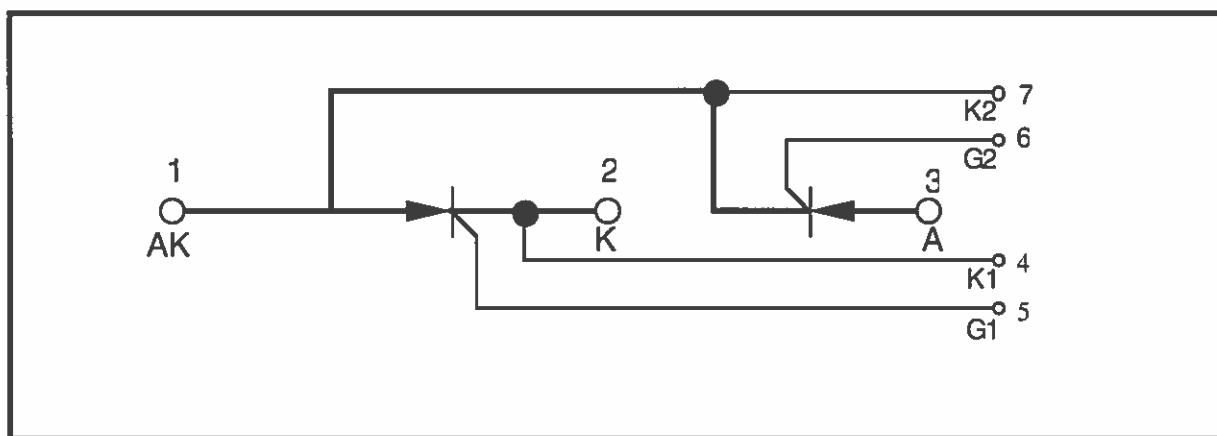

Figure 4.2 Internal Schematic for SCR Modules
The Converter SCR's used on all Electrospeed controllers are in modules. These modules are designed to mount directly to the heatsink, and provide 2500 VAC isolation between the internal SCR's and the base of the module. Each module contains two SCR's. Refer Figure 4.2 for internal schematic of the SCR module. Within the module, the anode of one SCR is connected to the cathode of the other. This point of interconnection is designated as terminal 1 (AK). AC power connects to this point. The remaining cathode, terminal 2 (K), and anode, terminal 3 (A), are connected to the positive and negative buses respectively. The SCR that connects to the positive bus is referred to as the positive SCR, while the one connected to the negative bus is referred to as the negative SCR. Terminals 4, 5, 6, and 7 are for gate firing signals which originate on the Converter Control Board, connectors J1 and J2.